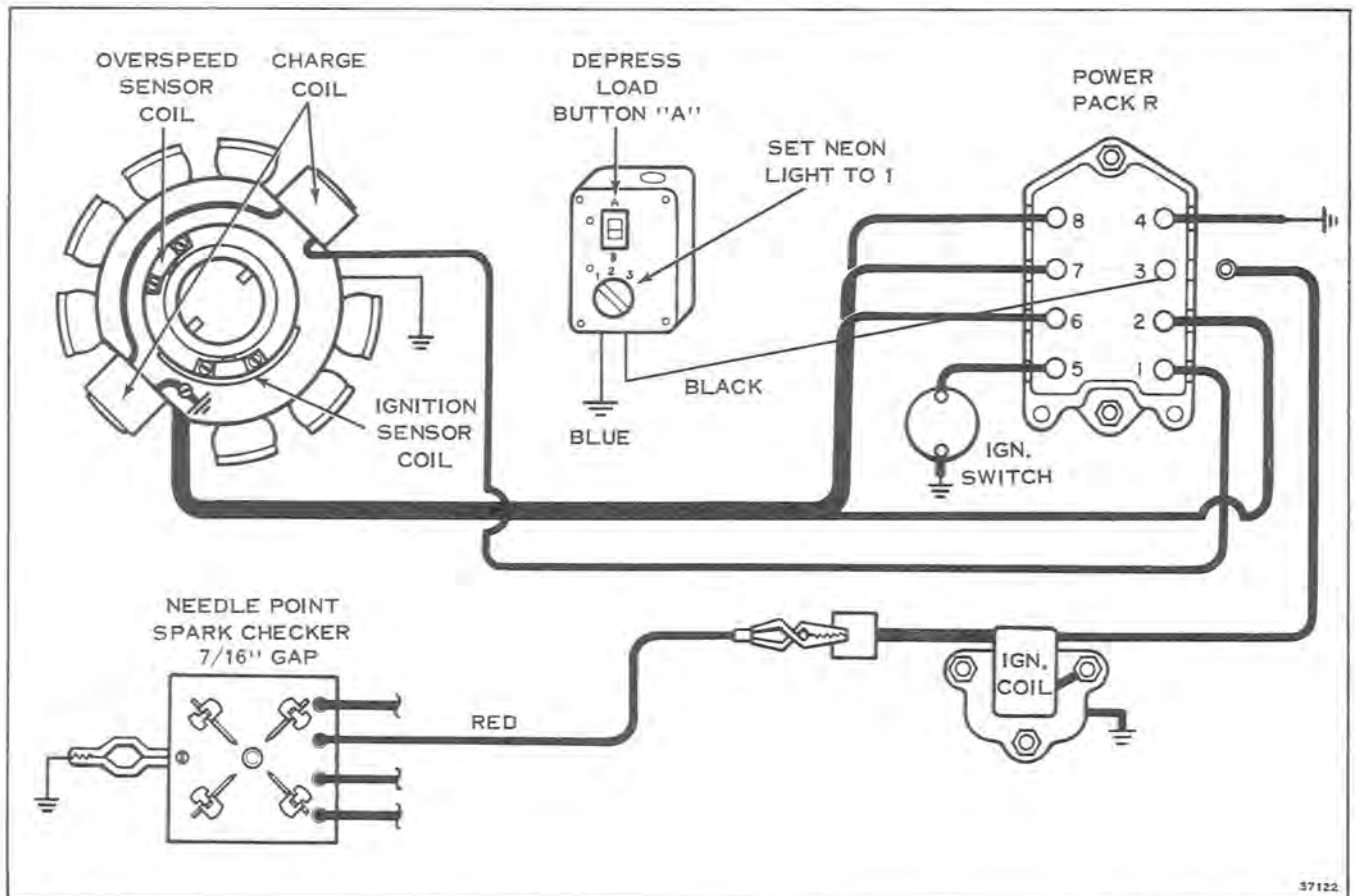

Figure 7-13
- B. Use neon tester S80 or M80. Set rotary switch on tester to position #1. Hook tester black lead to Power Pack R terminal #3, and tester blue lead to engine ground. See Figure 7-13.
- D. Depress load button "A" and crank engine with starter (or recoil starter) and observe neon light. See Figure 7-13.